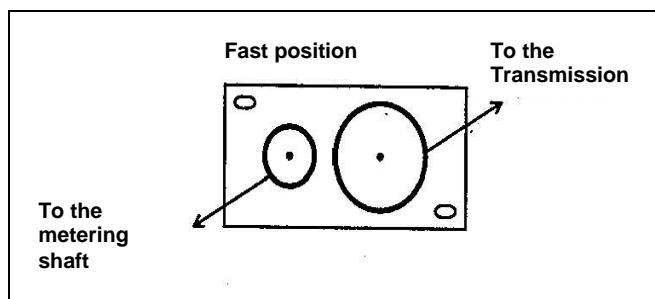
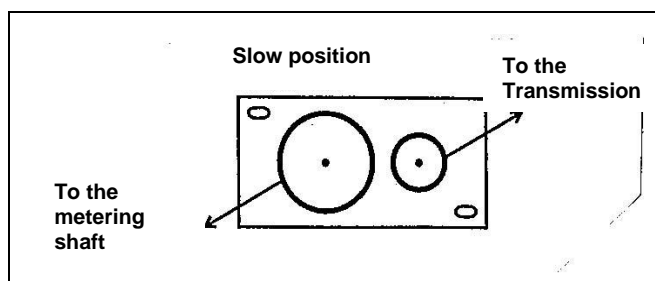

Figure 12G
Figure 12H
- ☞ The reverser can be installed in two ways: slow or fast position. These two positions provide a greater possibility of the variable speed transmission. For the initial installation, install the reverser to slow position [Figure 12H]. If at planting, variable transmission is around 18 on the indicator rule, you must modify the installation and install the reverser in fast position [Figure 12G].